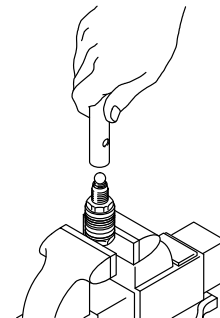

Fig. 26 02569
4. While maintaining the alignment, thread the piston valve assembly into the piston rod just until the piston valve nut contacts the rod. See Fig. 26.